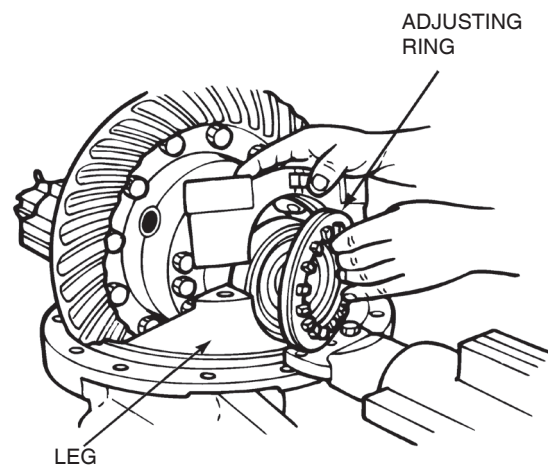

Figure 5.33
7. Install the bearing adjusting rings between the differential legs. Hand-tighten the adjusting rings against the bearing caps. Figure 5.33.